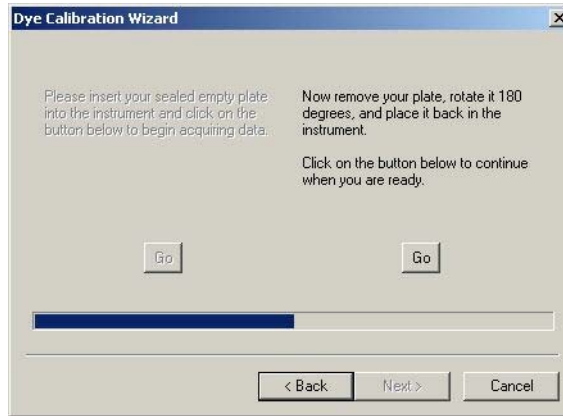

Figure 10-3. Continuing calibration
16. Remove the plate and rotate it 180 degrees when prompted. Close the door and click *Go* to continue (see Figure 10-3).